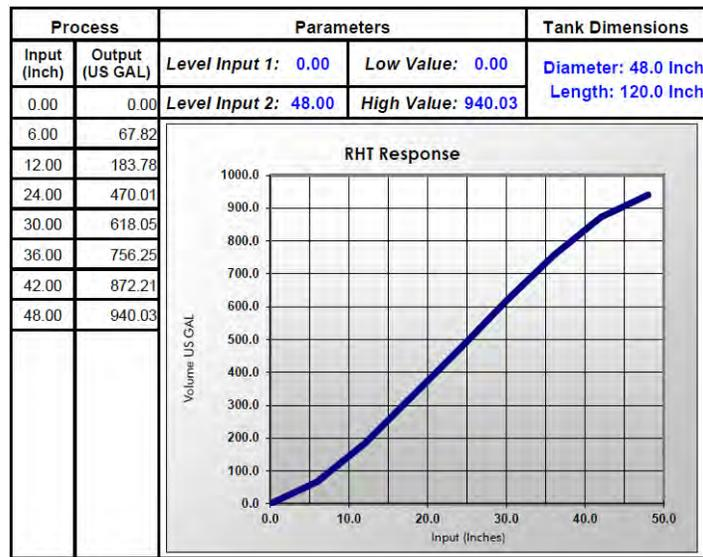

Fig 28: Round Horizontal Tank Volume Graph
- The input source for the channel calculating the volume must be a level channel with units of distance (height). The RHT function linearizes the signal from a level transmitter and displays the volume in engineering units. The graph in figure 28 shows the display response based on tank example: